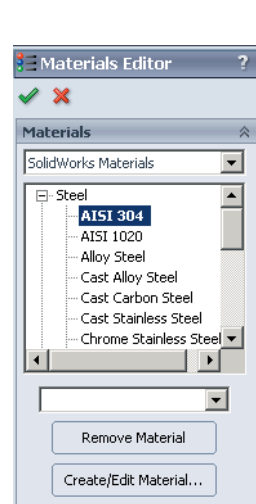

Fig. 20
Step 2. Expand Steel, select **Steel AISI 304** and click OK , Fig. 20.